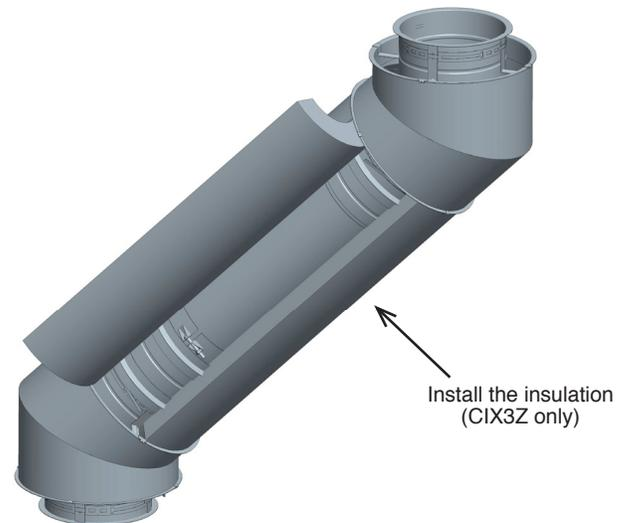

Figure 30 - Step 12 - Install Insulation for LV
12. Install the insulation over the inner wall (CIX3Z only). See **Figure 30**.